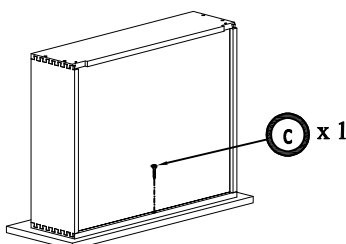

Figure 5
5. Assemble 4 plastic corner by screwdriver and 8 screw 1/2" (Figure 5)
4. Assemble screw 1" into drawer back with drawer side and drawer front with drawer side (Figure 5)
5. Assemble the screw 1" from drawer box front with drawer front into the free hole in the drawer front (Figure 5)